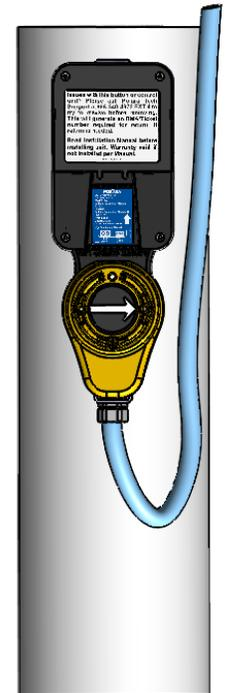

Figure 4
- Install button cover and test button for proper functionality. (Figure 4)